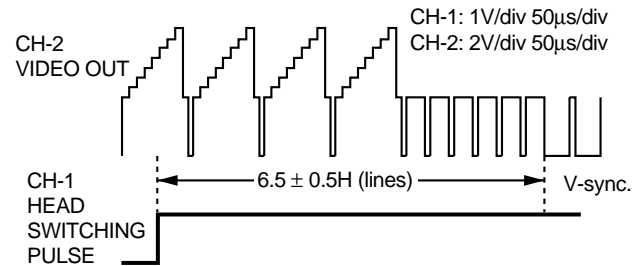

Figure 9-2.
6. Make this checking of waveform on the oscilloscope screen be as shown in Figure 9-2. just after the head switching point have been adjusted.